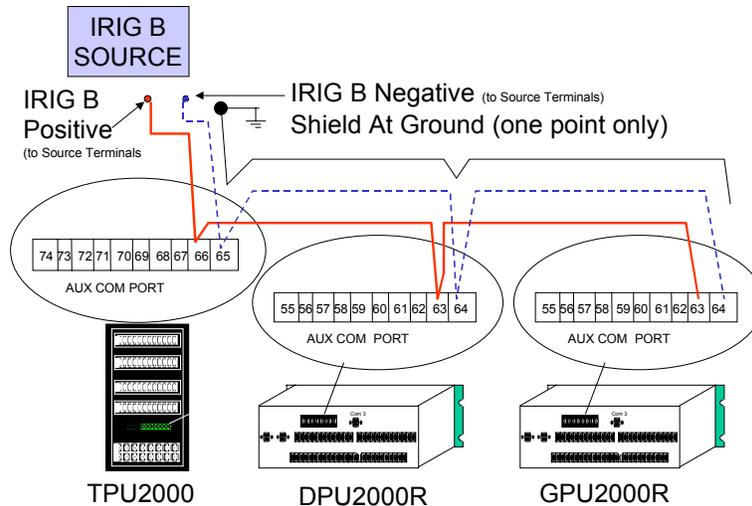

Figure 4-15. Pin to Pin Illustration of ABB Protective Daisychain Link for IRIG B
3. Highlight and Select the Communications Menu to display the screen as illustrated in Figure 4-15.